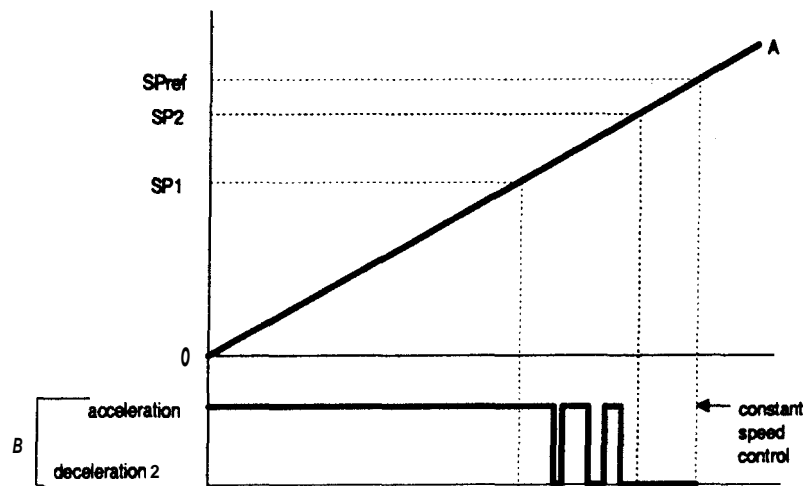

Figure 2-24. Acceleration Control Curve
Until the carriage speed reaches the constant speed set by PI control, acceleration control determines the speed of the carriage. The printer can print while the carriage is accelerating. The carriage speed moves to constant control speed smoothly to prevent the CR motor from exceeding the constant control speed. The E05A87 gate array controls the motor driver (SLA5007), which performs the current chopping. Figure 2-24 shows the acceleration control curve.
**Note:** In Figure 2-24, the acceleration curve is labeled A and the driving modes are labeled B.
3. The number of encoder pulses until the carriage speed reaches SP2. (See **Figure 2-24**, **Acceleration Control Curve**, for **SP2**.)